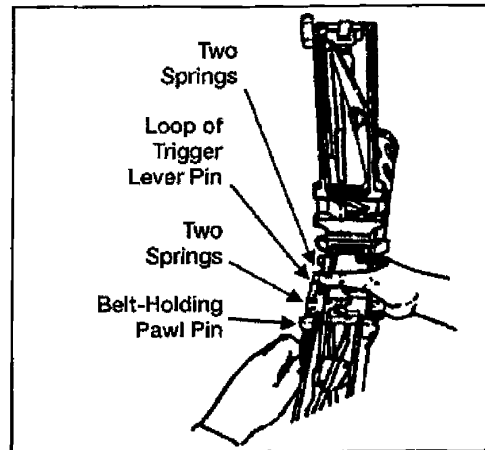

Figure 071-022-0001-21. Removal of the belt holding pawl pin, assembly, and springs
(3) Raise the loop of the trigger lever pin and rotate it into a vertical position. Reach inside the receiver, grasp the trigger lever, and remove the trigger pin assembly and trigger lever (figure 071-022-0001-22).